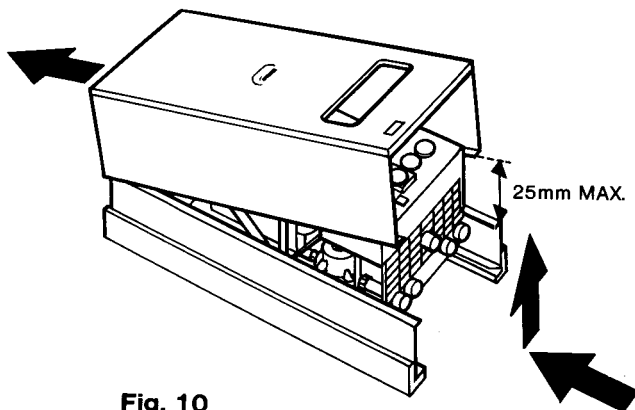

Fig. 10
- 5.3.2 Slightly lift the casing and slide it gently towards the top of the appliance to disengage the case from the top suspension hooks. (fig. 10)